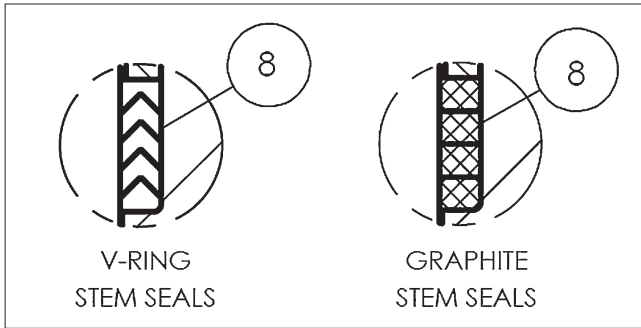

Figure 8. Stem Seal Orientation
8. Insert the stem (4) through the body cap end of the body (1), being careful not to scratch the stem sealing surface; and press it gently up into the stem bore until resistance is felt from the thrust bearing. Hold the stem in place from the bottom and insert the stem seals (8) (see Figure 8 for proper v-ring orientation), over the stem (4).
10. Insert the stem subassembly into the *Emission-Pak* housing (101). Pull the stem outward to seat the thrust bearings. Install one set of stem seals (104) and lantern ring/spacer (103) over the stem as shown in (**Figure 8**). For optimal performance, pre-compress the first set of stem seals.
11. Install the compression ring (111) and compression plate (20) over the stem. Using stud nut (30), apply the torque value listed in (**Table 3**).
12. Remove the stud nuts (30), compression plate (20), and compression ring (110) from *Emission-Pak* housing.
13. Install the top set of stem seals (104) over the stem as shown in (Figure 8).
14. Hold the stem in place and slide the compression ring (111) and compression plate (20) over the stem (4) and studs (29).